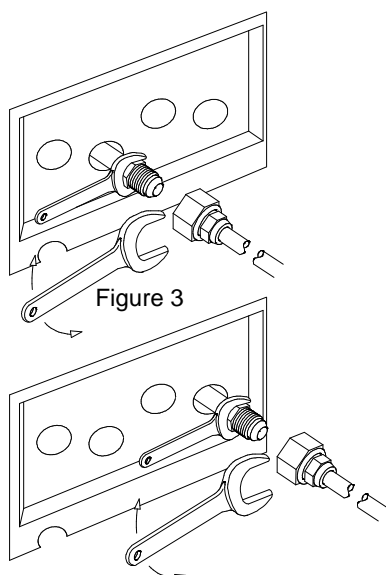
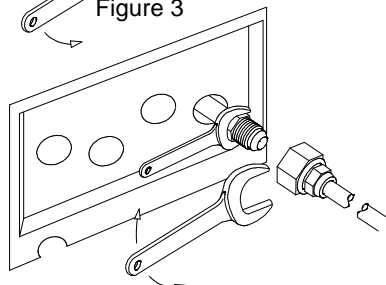

Figure 3
Figure 4
- Connect the line to the on-off valve using two spanners, as shown (Figure 3 for the first circuit, Figure 4 for the second).